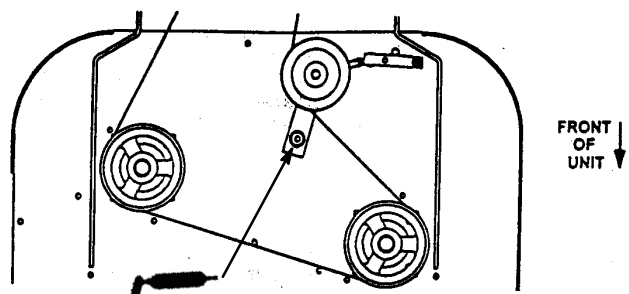

Figure 37
3. Lubricate the blade belt idler arm pivots and blade spindles (Fig. 37).